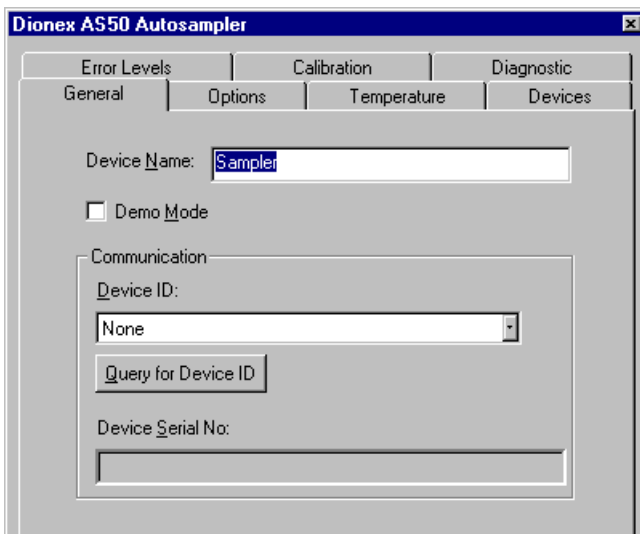

Figure B-16. AS50 Configuration Properties
- Click **OK**. A configuration properties dialog box for the device appears. Figure B-16 shows an example of the properties for an AS50 Autosampler.